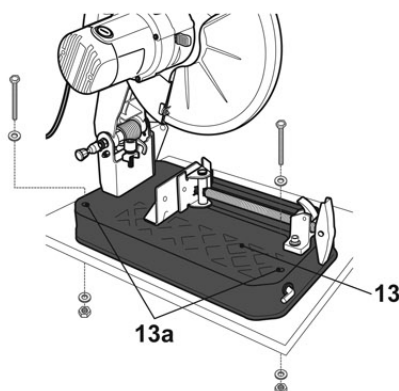

Fig. 3
- > There are 2 mounting holes (13a) on the cutting table (13) to facilitate bench mounting.
- > Place the product on a level, horizontal bench or work table and fix the product on it with 2 mounting sets (not provided) (Fig. 3).